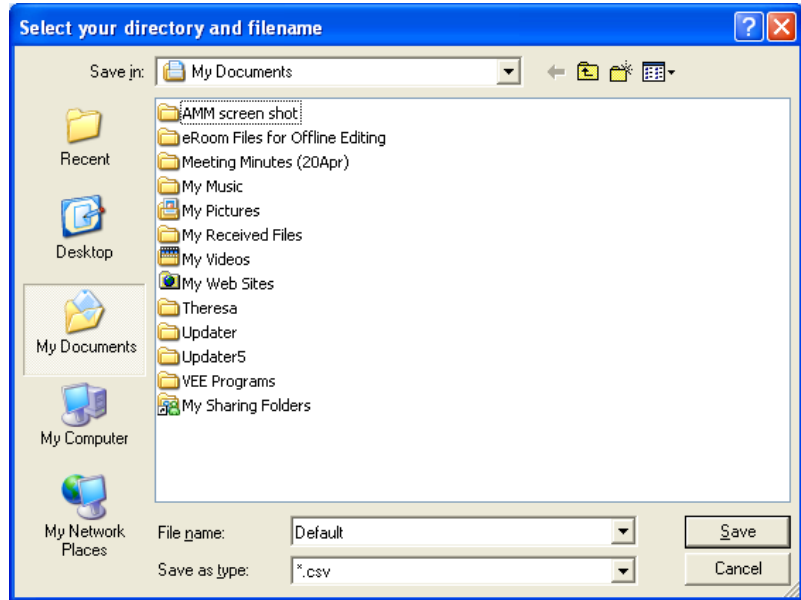

Figure 12 Select your directory and filename.
- b** A **Select your directory and filename** dialog box will pop out (Figure 12). Choose your preferred save directory and file name. Then, click **Save**.